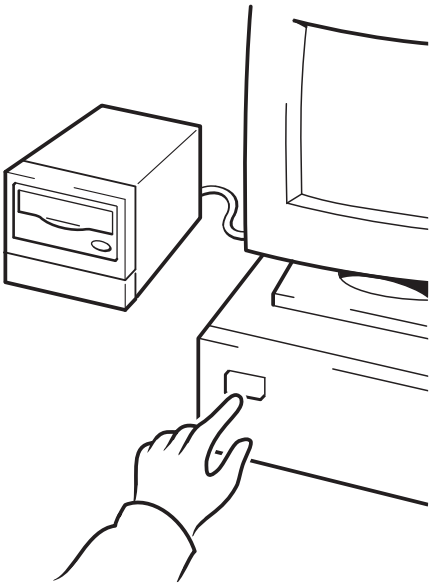

Figure 10c: using HP OBDR, step 3
- 3 Switch on your server (see figure 10c).